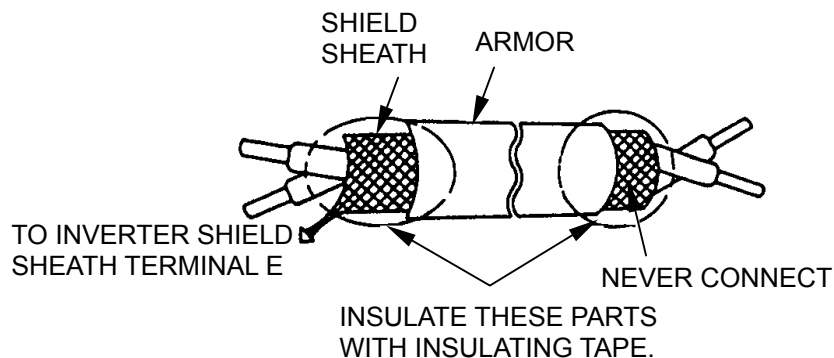

Fig. 4 Shielded Wire Termination
- (1) Separation of control circuit leads and main circuit leads: All signal leads must be separated from main circuit leads L1 (R), L2 (S), L3 (T), \oplus , \ominus , B2, T1 (U), T2 (V), T3 (W) and other power cables to prevent erroneous operation caused by noise interference.
- (2) Control circuit leads ⑨, ⑩, ⑱, ⑲, ⑳ (contact output) must be separated from leads 1 to 8, ㉑, ㉒, ㉓, ㉔, ㉕ and ⑪~⑰.
- (3) Use twisted shielded or twisted pair shielded wire for the control circuit line and connect the shield sheath to the inverter terminal E to prevent malfunction caused by noise. See Fig.4. Wiring distance should be less than 164ft (50m).